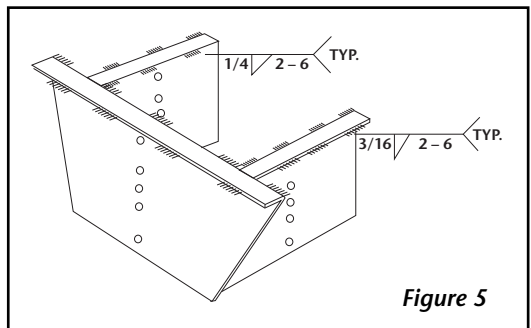

Figure 5
1. Weld as shown in *Figure 5*, making 1/4" fillet welds on the inside and 3/16" fillet welds on the outside, with skip welds 2" long on approximately 6" centers (weld 2", skip 4"). Weld inside opposite skips on the outside.
2. Install and adjust inner box to required height. Use the six (6) Grade 5 fasteners provided (2 each hole series) and tighten to 65 ft. - lbs.